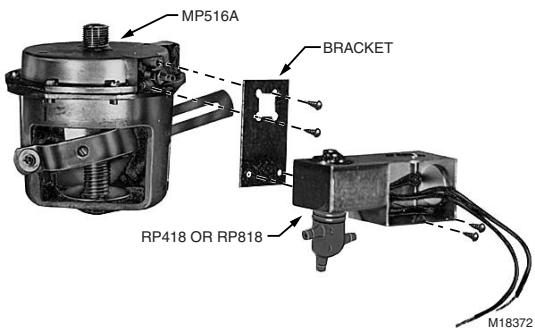

Fig. 2. RP418 or RP818 relays mounted directly to an MP516A operator using the 14003638-001 adaptor kit.
1. Use the mounting holes beneath the cover of the splice box and attach the relay using mounting screws obtained locally. See Fig. 2 through 5.